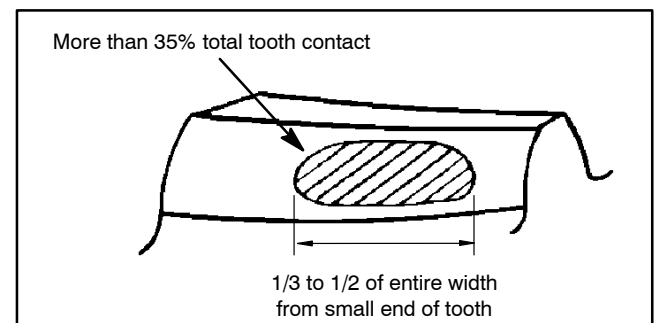

Figure 26
9. Ideal tooth contact should cover more than 35% of each tooth surface. The contact area should be in the center of each tooth and extend 1/3 to 1/2 way across each tooth from the toe (small) end (Fig. 26).